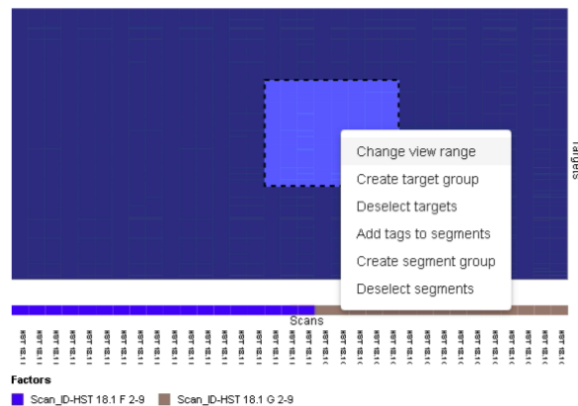

Figure 54: Adding tags to selected segments
3. Right-click on this selection box. From the resulting menu (see Figure 54), select **Add tags to segments**.